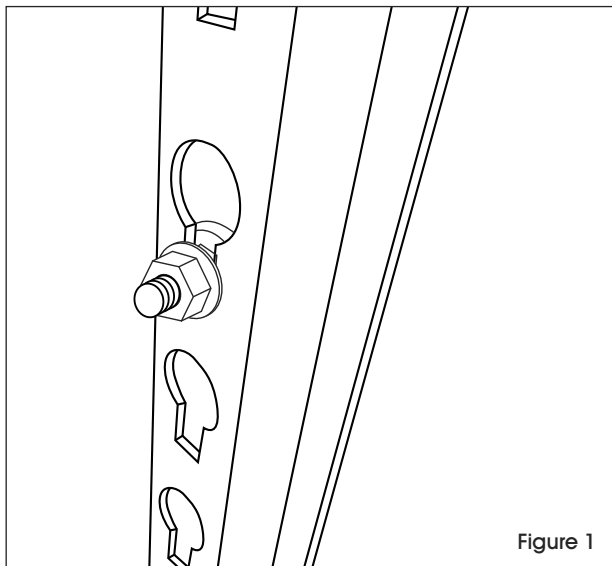

Figure 1
3. Lift out flange nuts and bolts and move to desired shelf level. Hand tighten flange nuts on bolts, but do not fully tighten. (See Figure 1)